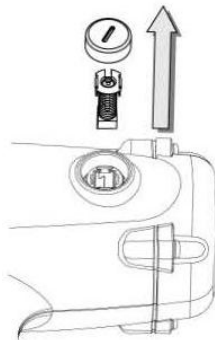

Fig.2
- Take out the carbon brush (Fig. 2).